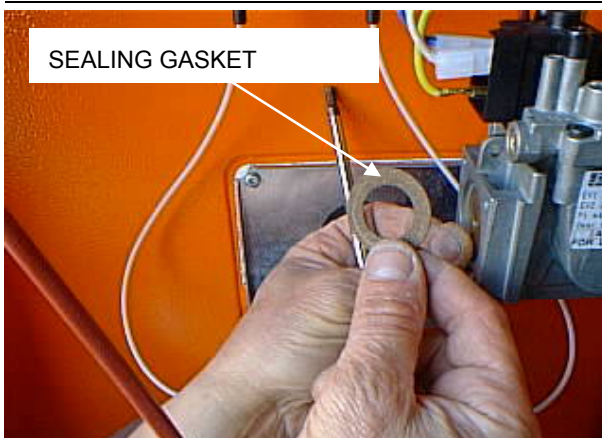

Figure 38 – Sealing gasket.
4. Remove the sealing gasket, being careful not to damage or lose it (see Figure 38).